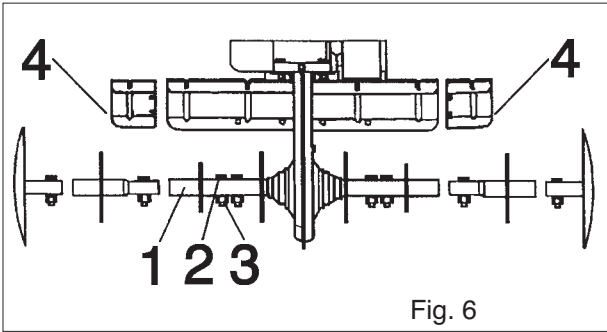

Fig. 6
ASSEMBLY OF THE HOE TILLER Fig. 6)
2. Fit the hoe hubs (Fig. 6, detail 1) to the Motorhoe shaft, keeping in mind that:
3. Fasten the hoe-tiller to the Motorhoe shaft by means of screws (2) and nuts (3).
4. Fit the hoe's side protections (5) by means of screws (6) and nuts (7).